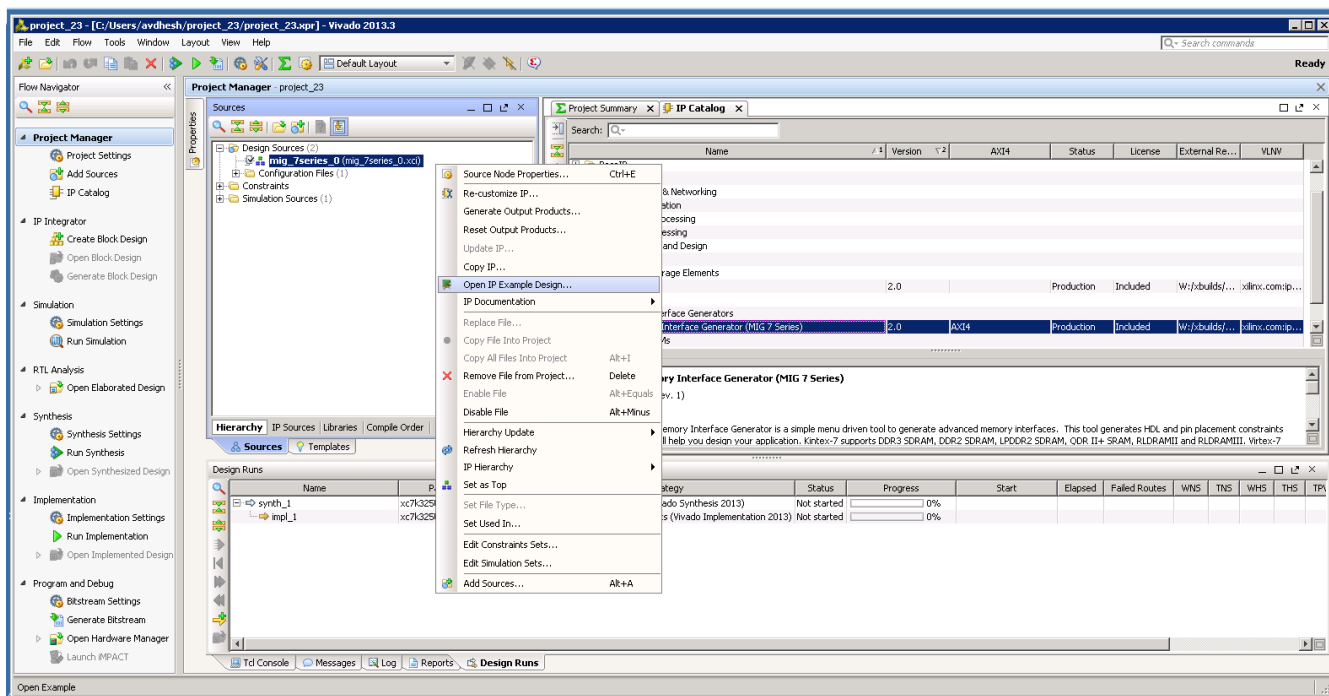

Figure 2-35: Open IP Example Design
9. The Vivado Design Suite supports the **Open IP Example Design** flow. To create the example design using this flow, right-click the IP in the **Source Window**, as shown in Figure 2-35 and select.